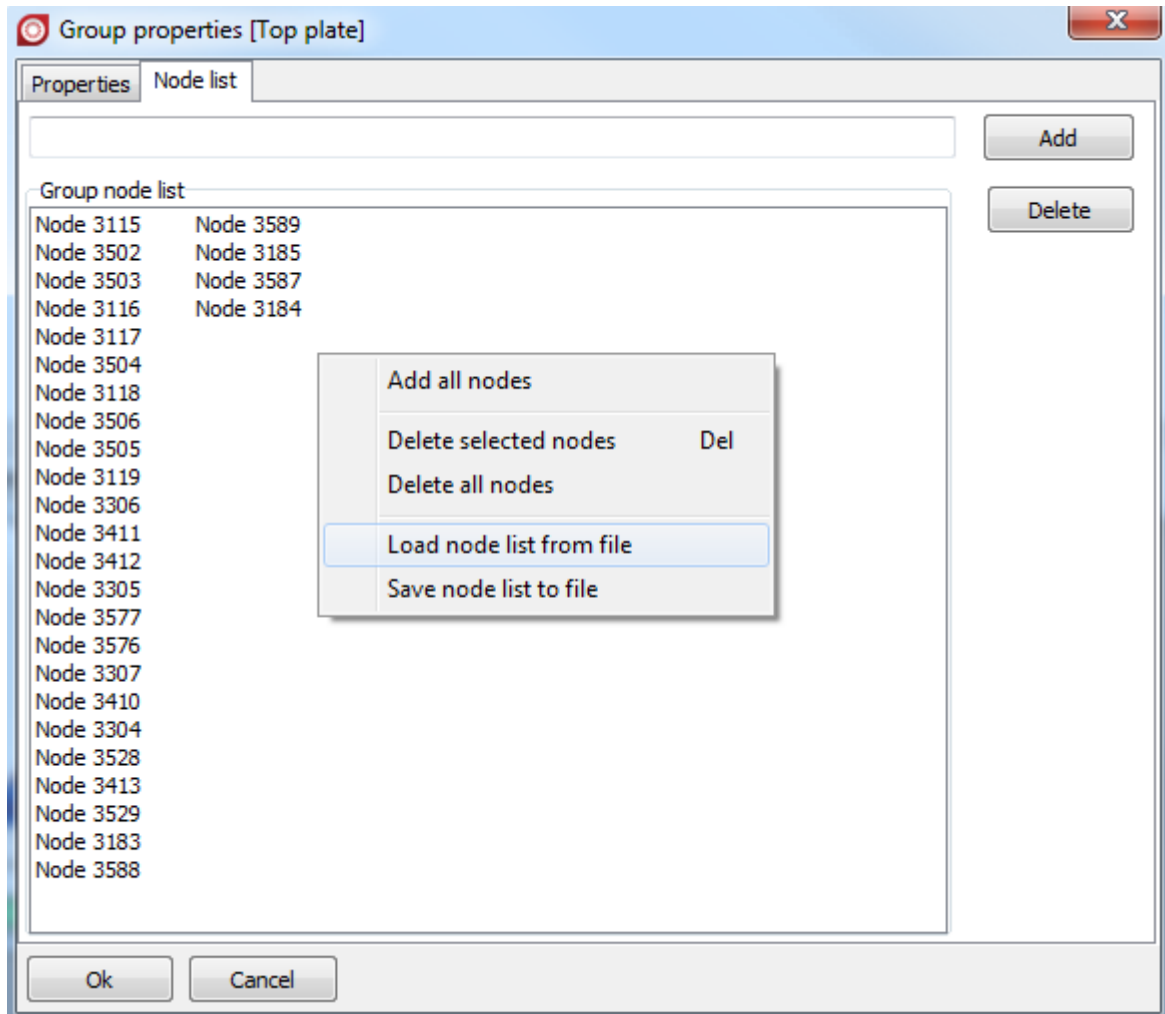

Figure 2.29. Node list initialization for the **Top plate** control area
5. Load node list from the file *Top plate node list.nls* (use the popup menu command **Load node list from file**), see Figure 2.29.